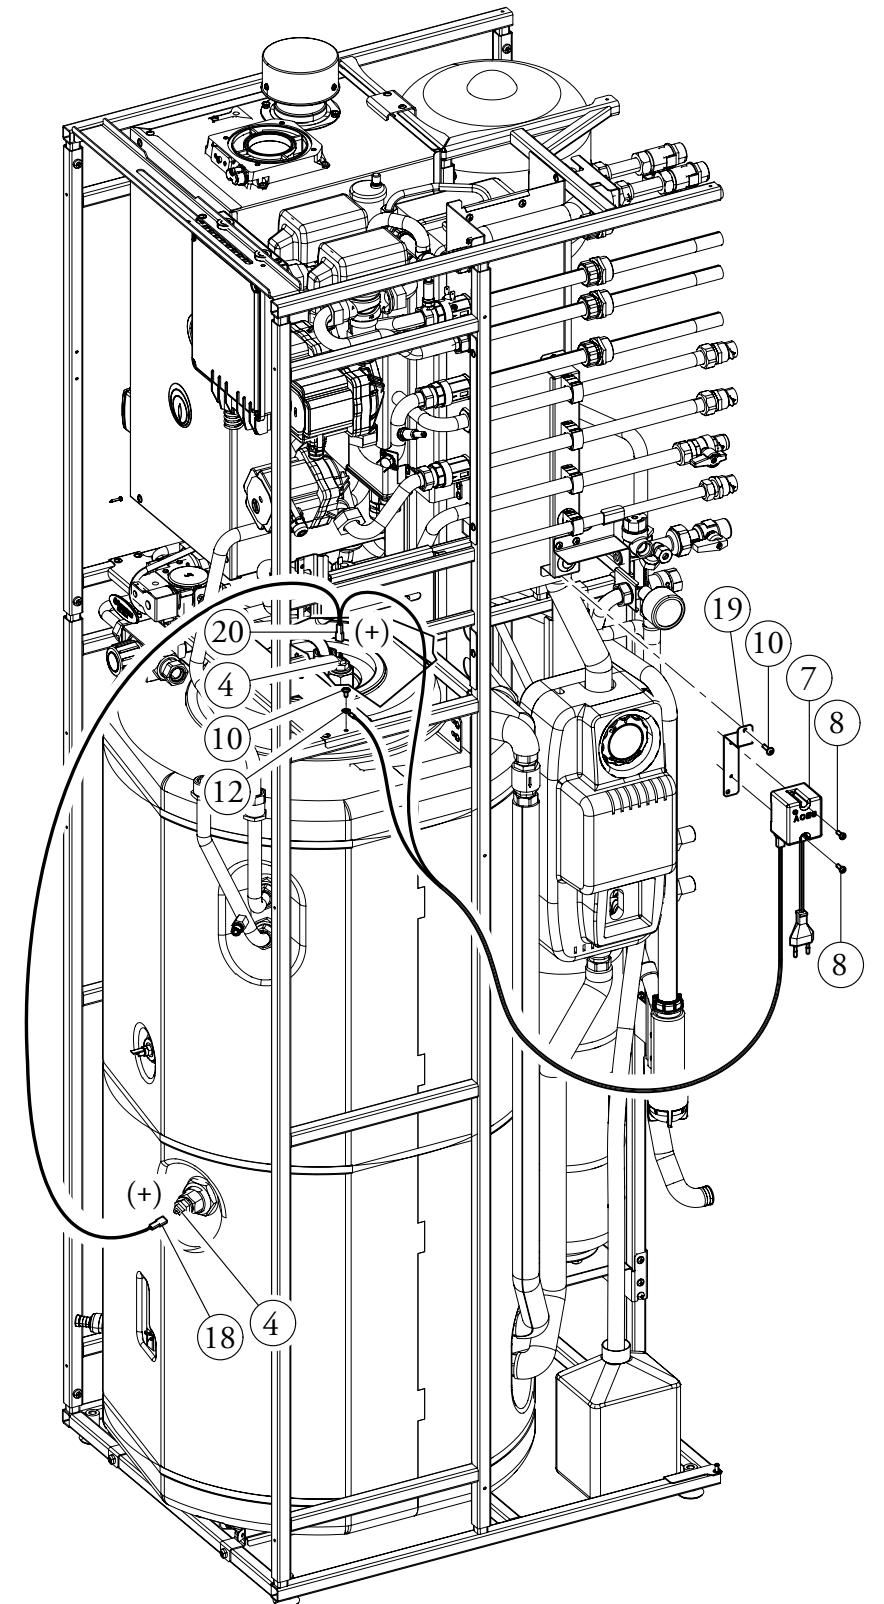

Fig. 12
- Assemble the control unit (7) with the screws (8) on the fixing plate (19) (Fig. 12).
- Assemble the plate (19) on the boiler using the screw (10).
- Make the earthing connection with black cable (12) using the screw (10).
- Connect the red cable connectors (20 and 18) to the fastons on the anodes (4). Intermediate faston red cable (20) on the storage tank / cylinder cover, terminal faston red cable (18) on the storage tank / cylinder jacket.
N.B.: the connector (18) can be replaced with the flag connector supplied with the relative protection in order to improve connection with the lower anode and reduce its clearance.